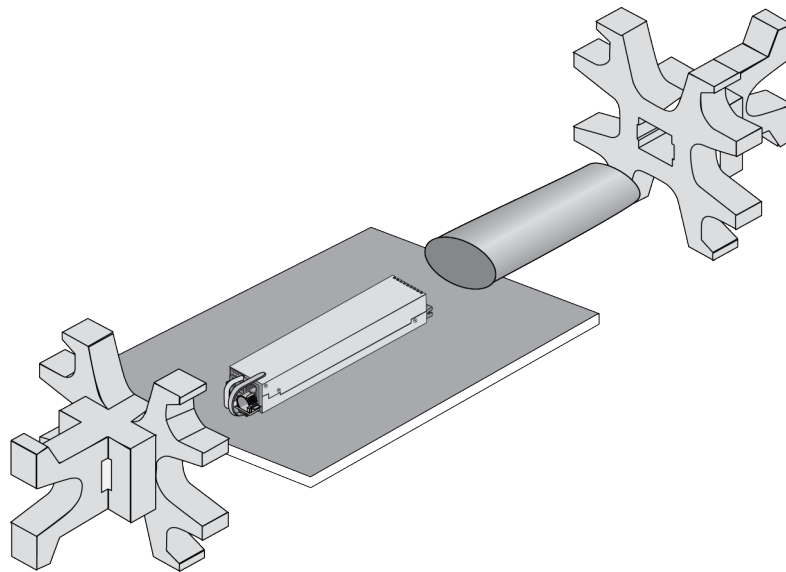

Figure 55. Removing the Power Supply from the Shipping End-caps and Protective Bag
4. Remove the power supply from the shipping end-caps and protective shipping bag. Refer to Figure 55.